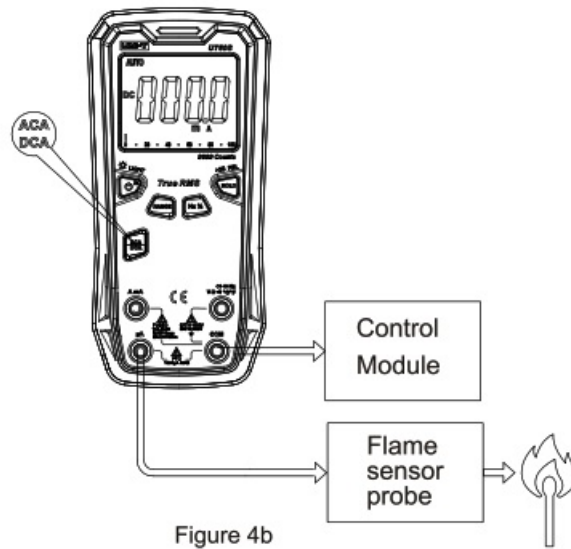

Figure 4b
- “μA” terminal can be used for heating system flame rectifier circuit detection (Figure 4b)